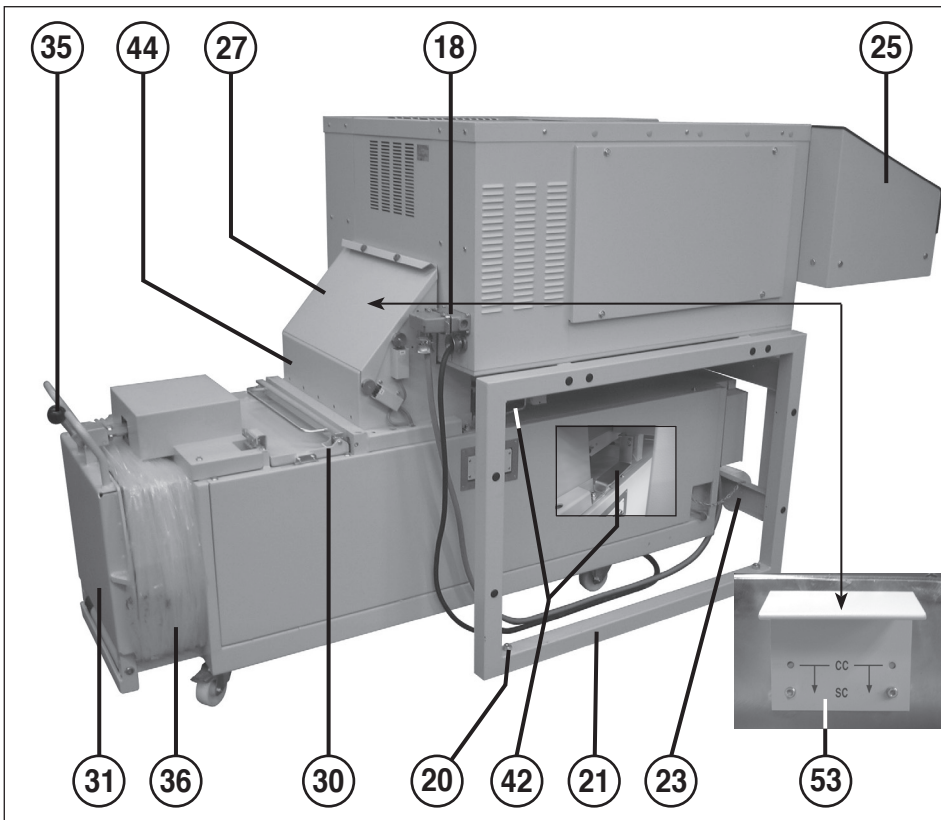

fig. 2
6. Compensate for unevenness in the floor with the levelling screw (20) (fig. 2).
6. Position the two switch covers (48) over the limit switches and fix each to the hopper with two screws M5x16 and nuts M5.
7. Open cover flap (27). Check/correct position of security angle (53) (fig. 2):
ASSEMBLY OF THE COMBINATION (fig. 2 and 3):
1. Push the baler under the shredder. Screw the shredder and the baler together with the aid of the two fixing brackets (42) provided with the shredder (fig. 2).
4. Insert and secure the connecting plug of the baler in the electrical outlet (18) at the housing rear panel (fig. 2).
- 18 = electrical outlet (fig. 2)
- 20 = leveling screw (fig. 2)
- 27 = cover flap (fig. 2 and 5)
- 30 = inlet flap (fig. 2)
- 31 = discharge flap (fig. 2)
- 35 = locking lever (fig. 2)
- 36 = sack frame (fig. 2 and 14)